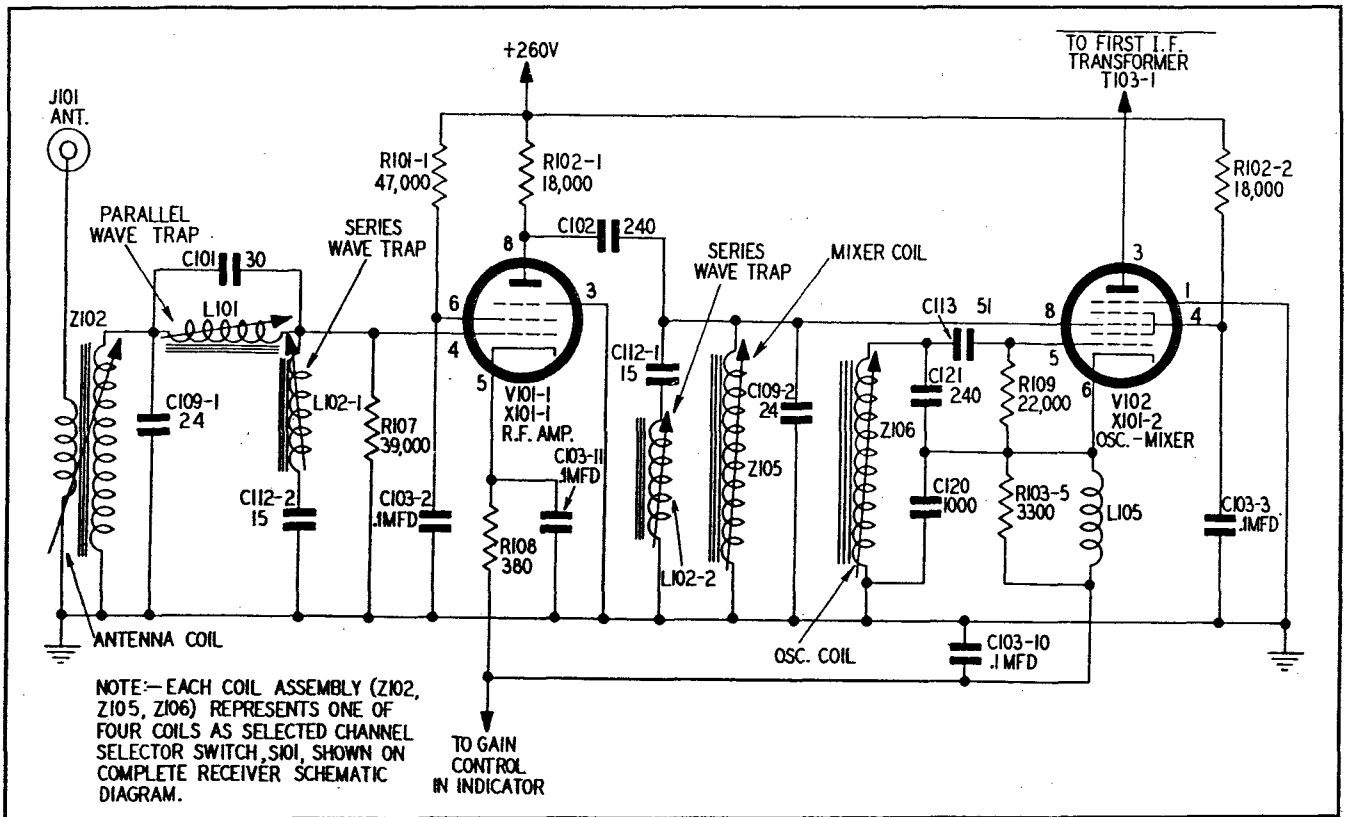

Figure 4-34. Receiver, R-F Mixer, and Oscillator Circuit
(1) R-F AMPLIFIER. (See figure 4-34.)—The r-f amplifier of the receiver consists of V-101-1, coil assembly Z-102 and associated components, and is designed to operate on four pre-set frequencies. The "CHANNEL" selector switch on the front panel of the receiver controls a four-gang wafer-type switch which selects the frequencies. For Radio Receiver *R-9A/APN-4 (modification III), positions "1," "2," and "3" of the "CHANNEL" selector are for stations in the low-frequency band between 1.6 and 3.3 megacycles, and are adjusted at the factory for 1.95, 1.85, and 1.9 megacycles, respectively. Position "4" of the "CHANNEL" selector is for the high-frequency band of 7.58 to 11.75 megacycles, and is adjusted at the factory for 9.6 megacycles. For Radio Receiver *R-9B/APN-4 (modification IV) all four r-f channels lie within the low r-f band between 1.7 and 2.5 megacycles, and are pre-set at the factory for 1.95, 1.85, 1.9 and 1.75 megacycles.